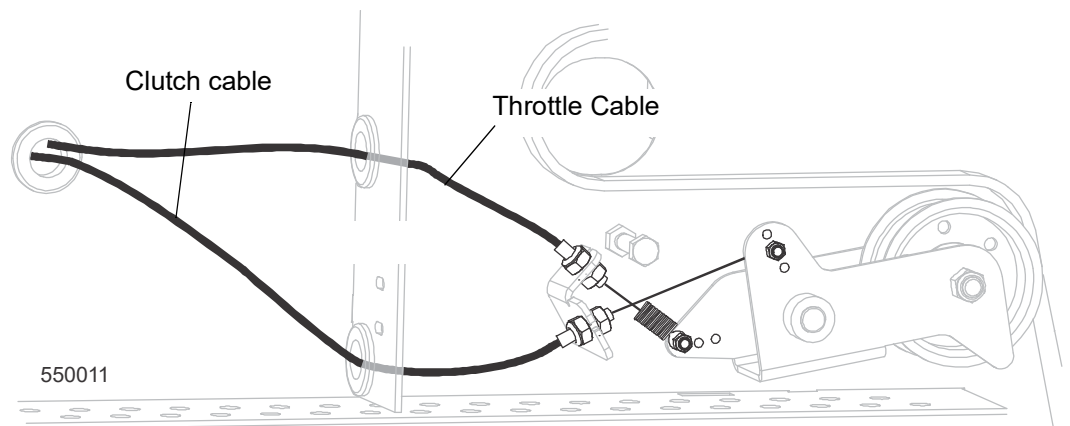

FIG. 4-13
1. Adjust the drive belt by increasing or reducing the clutch cable. See Fig. 4-13.